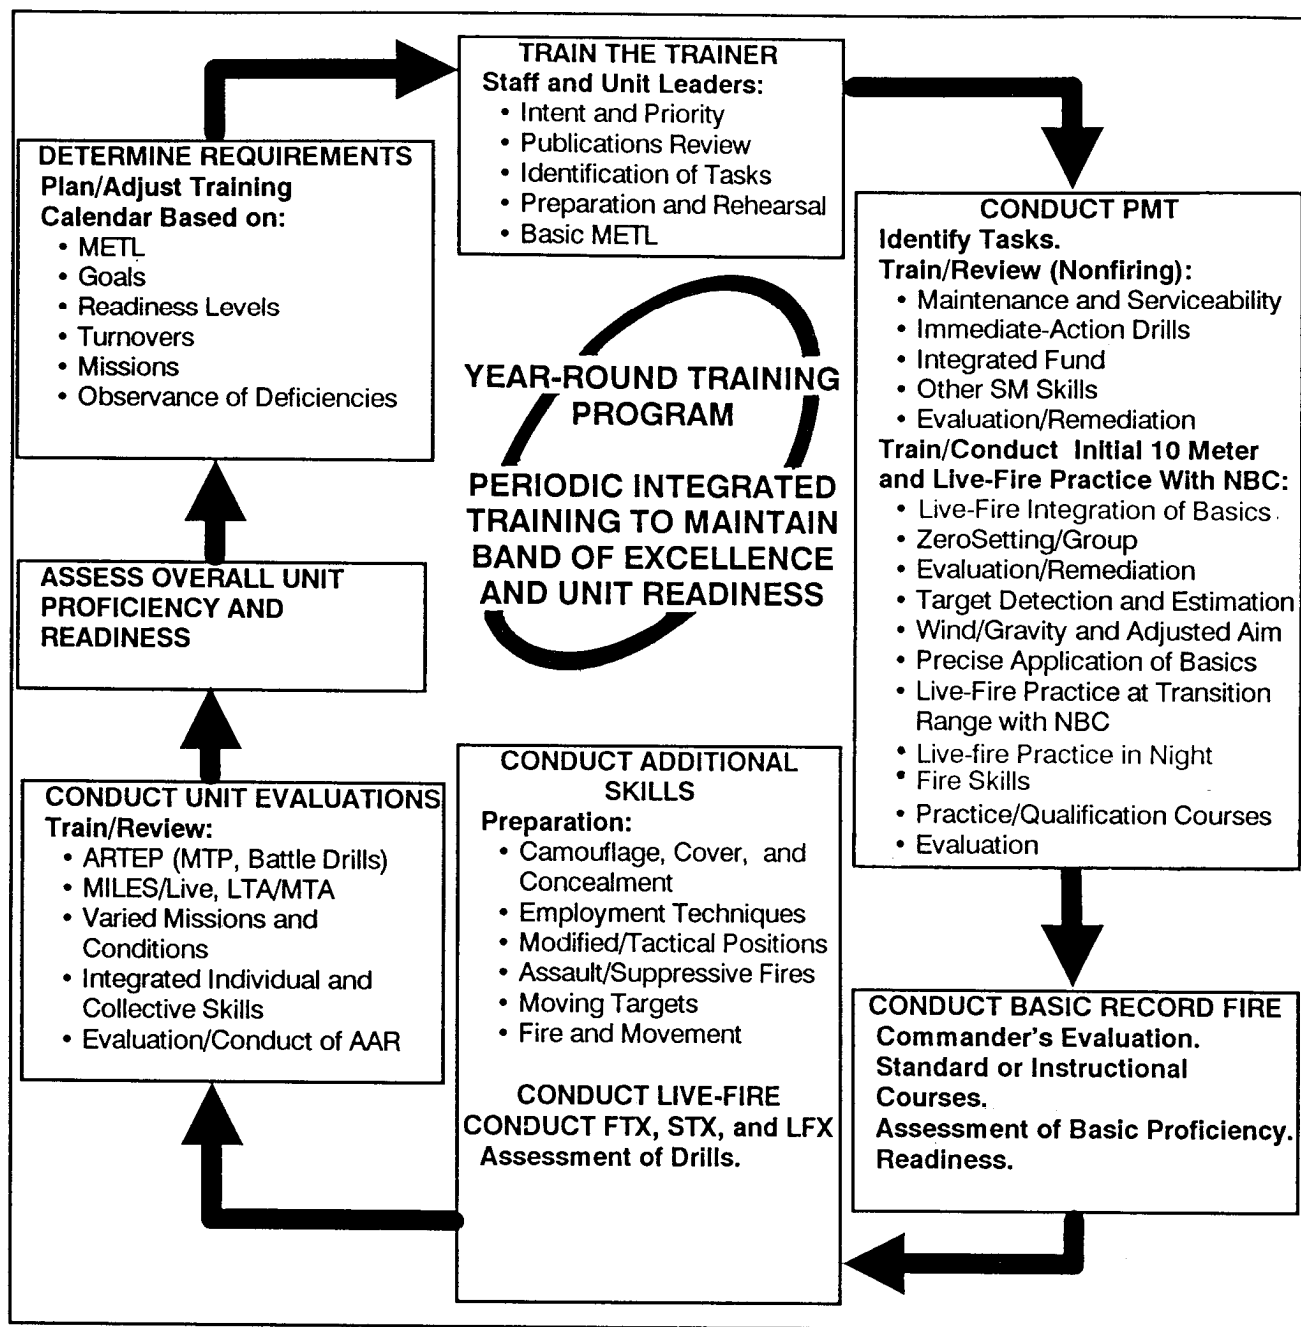

Figure 5-1. Unit marksmanship sustainment strategy.
c. The training strategy for M249 marksmanship begins in the institutions and continues in the unit. Figure 5-1, page 5-4, illustrates an example of this overall process, which provides a concept of the flow of unit sustainment training. Combat arms IET provides field units with soldiers who are familiar with standards in basic marksmanship tasks. The soldiers graduating from these courses have been trained to maintain their M249s and to hit a variety of targets. They have learned range determination, target detection, application of marksmanship fundamentals, and other skills needed to engage a target.